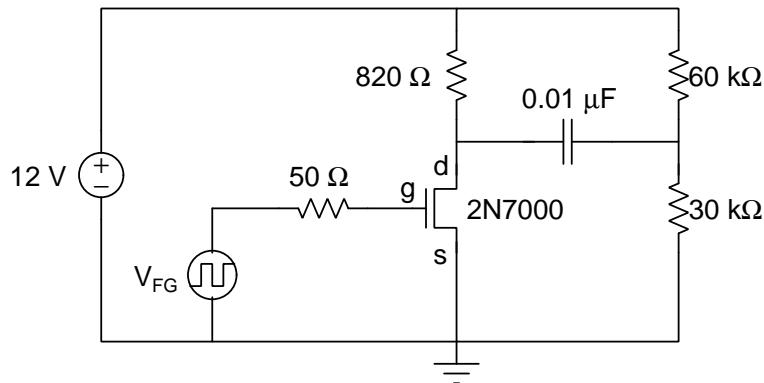

Figure 3: Multivibrator half-circuit.
1. Build the multivibrator half-circuit circuit shown in **Figure 3**.
2. Set the waveform generator (WG) to produce a triangular waveform with a voltage swing from 0 to 5 volts, and a frequency equal to that found in **step 4** of the Pre-Lab. Use the scope to record the voltage at both the gate (G) and drain (D) of the 2N7000 transistor. By examining when these two voltage traces cross, determine the gate voltage that causes the transistor to switch between the on-state and the off-state. Expand the time and voltage scales on the scope to maximize the accuracy of the measurement. Try and measure this gate voltage within $\pm 50 \text{ mV}$. This gate voltage will be called V_{T0} . Try and obtain at least two 2N7000 transistors that have nearly the same V_{T0} voltage.